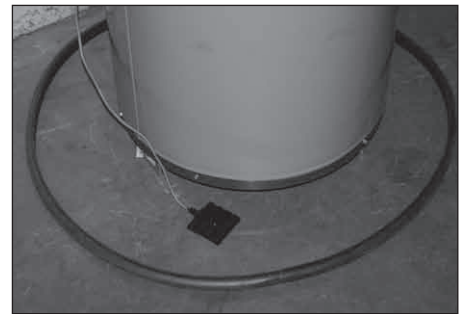

Figure 3
5. Install the Water Detector Pad under the water heater with the green circuit board down. The Detector Pad must lie flat on the floor or in a drain pan. Route the connecting cable to the Control Unit and insert the interlocking connector to the circuit board. **Figure 3**